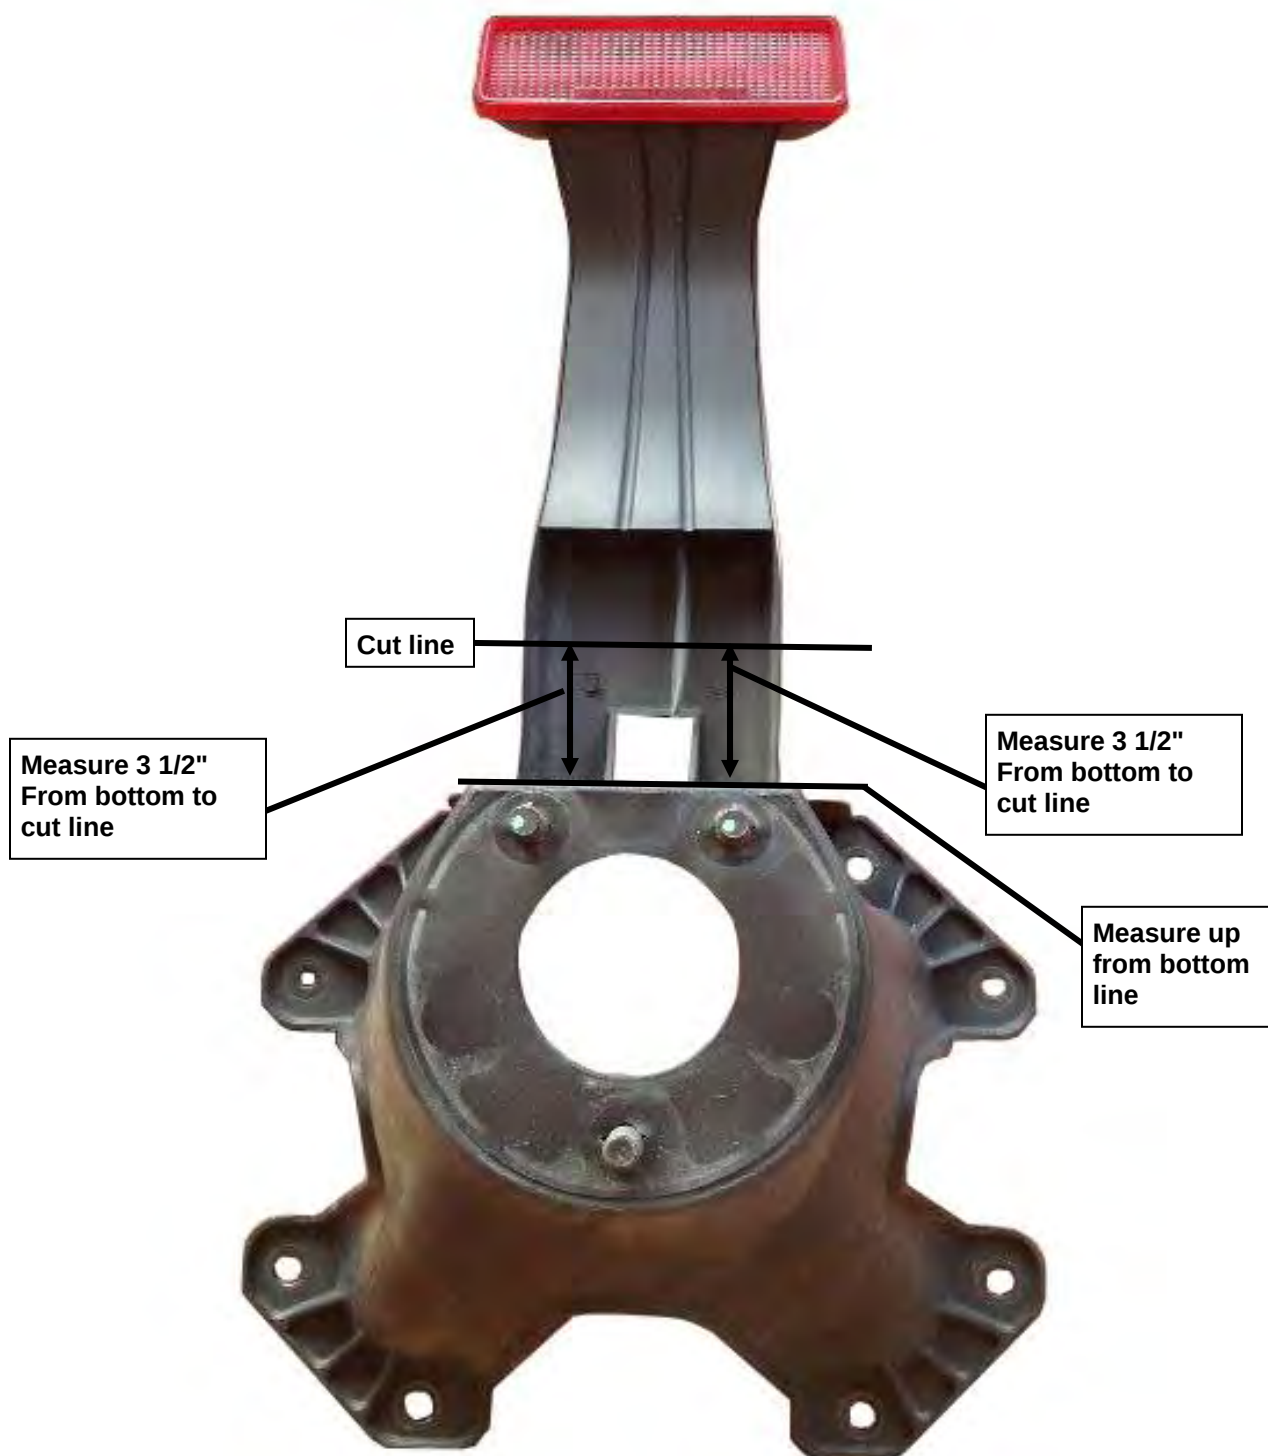

Fig 6
4. Once carrier is separated select the new 3rd brake light bracket and place it into place coupling the rear of carrier, the edge of the bracket should sit flush with the edge of the carrier as seen in **(Fig 6,7&8)** taking note of the alignment, mark holes through the bracket to the carrier for drilling the (4) holes on the bottom (use a 3/8" size drill bit) with these holes drilled it is easier to attach (2) of the 8mm hex bolts (4) 8mm washers & (2) 8mm hex nuts snug but do not tighten for the measuring of the top holes to be drilled.